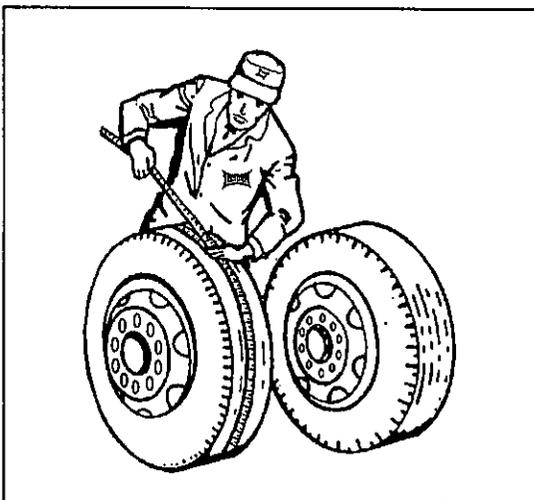

Figure 4-15 Measuring Tape Method
a. Tape Measuring Method: Measure around each tire on the tread surface. A maximum difference of $3/4$ " is allowed between the two mating tires of a dual (See **Figure 4-15**).